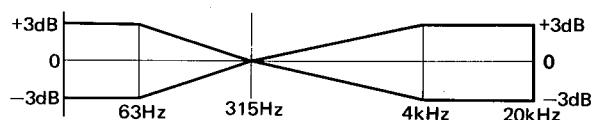

Fig. 7
- a) Connect a dual channel AC VTVM (A) to TP501 (left), TP502 (right) and ground, and connect a dual channel AC VTVM (B) to both left and right line output jacks.
- b) Connect an audio signal generator to both left and right line input jacks. Adjust the generator input level for an output on VTVM (A) of 580mV -25dB, when the unit is in recording mode.
- e) Play back the metal tape recorded above, note the frequency response obtained on the VTVM (B) and compare to Fig. 7.
- f) If the above frequency response is not within the range as shown in Fig. 7, adjust TC251 (left) and TC252 (right) slightly. Repeat steps d) and e) until playback frequency response on the VTVM (B) is adjusted within the range as shown in Fig. 7.
- i) Play back the CrO₂ tape recorded above, note the frequency response obtained on the VTVM (B) and compare to Fig. 7.
- j) If the above frequency response is not within the range as shown in Fig. 7, adjust VR254 slightly. Repeat steps h) and i) until playback frequency response on the VTVM (B) is adjusted within the range as shown in Fig. 7.
- m) Play back the FeCr tape recorded above and note the frequency response obtained on the VTVM (B).
- n) If the above frequency response is not within the range as shown in Fig. 7, adjust VR253 slightly. Repeat steps l) and m) until playback frequency response on the VTVM (B) is adjusted within the range as shown in Fig. 7.
- q) Play back the normal tape recorded above and note the frequency response obtained on the VTVM (B).
- r) If the above frequency response is not within the range as shown in Fig. 7, adjust VR252 slightly. Repeat steps p) and q) until playback frequency response on the VTVM (B) is adjusted within the range as shown in Fig. 7.